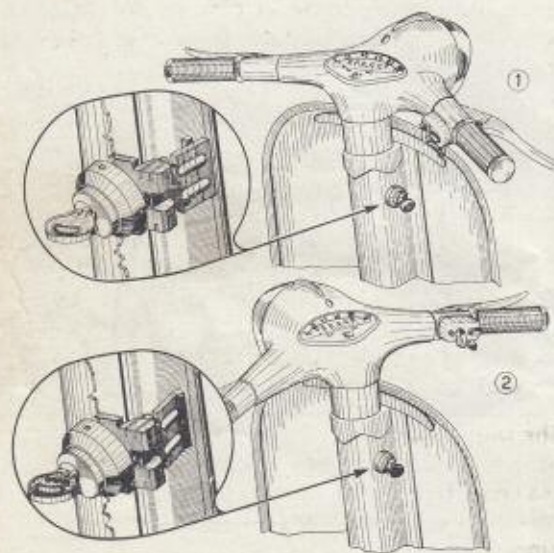

Fig. 10 - Security lock
is arranged on the frame, near the handlebars. Turning the key anticlockwise and the handlebars to the left, the lock engages the lugs welded on the steering column, so that the machine can only turn around. Turn the key clockwise for releasing the steering system (see Fig. 10).
**Speedometer.** The speedometer is housed in the central portion of the handlebars (see Fig. 10) and adds to the performance and appearance of the scooter.